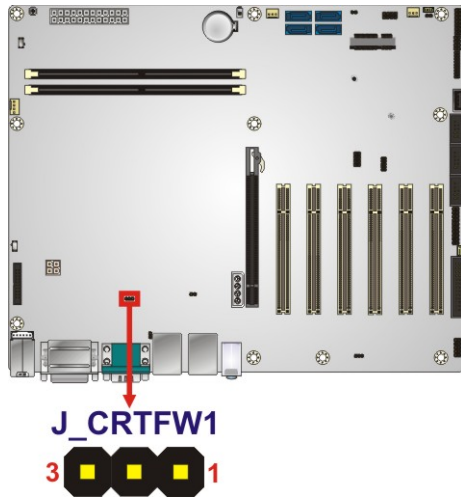

Figure 3-7: CRT FW Update Connector Location
- CN Location:** See **Figure 3-7**